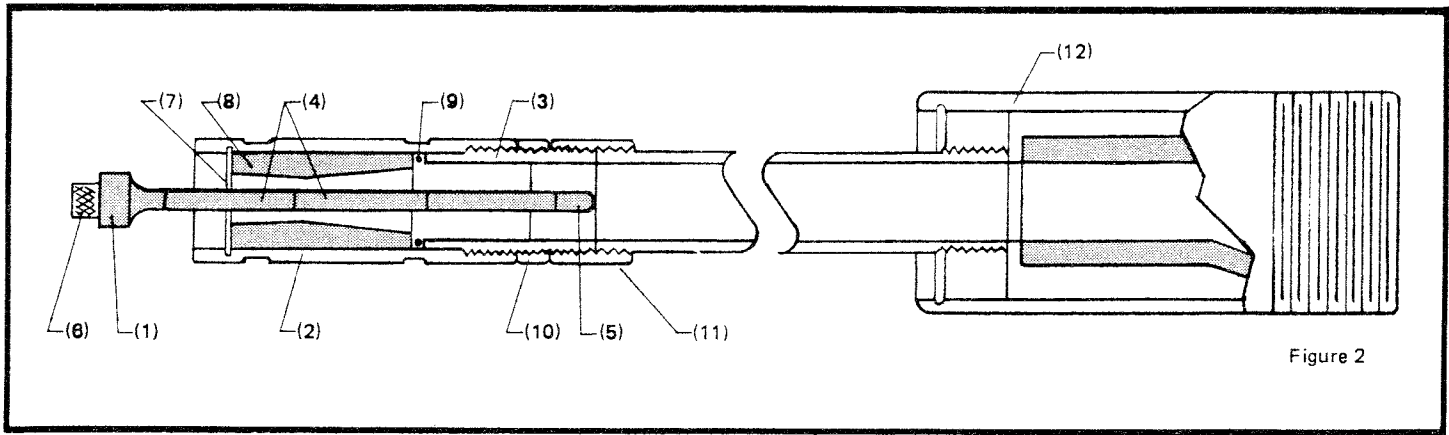

Figure 2
5.1 Hollo-Blast Junior (Figure 2).